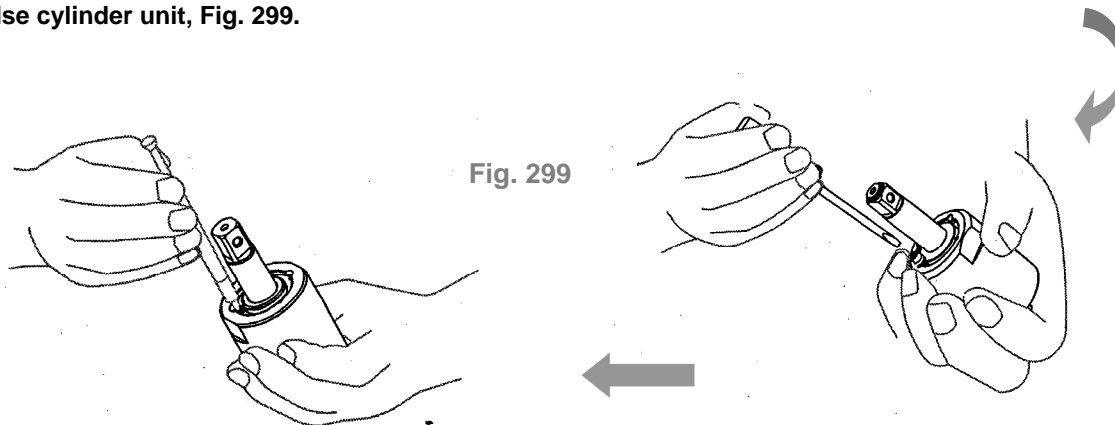

Fig. 299
- ⑤ Loosen the greasing screw again and use an injector to draw out a little amount of oil (see Table 38) . Finally, tighten the greasing screw back to the pulse cylinder unit, Fig. 299.